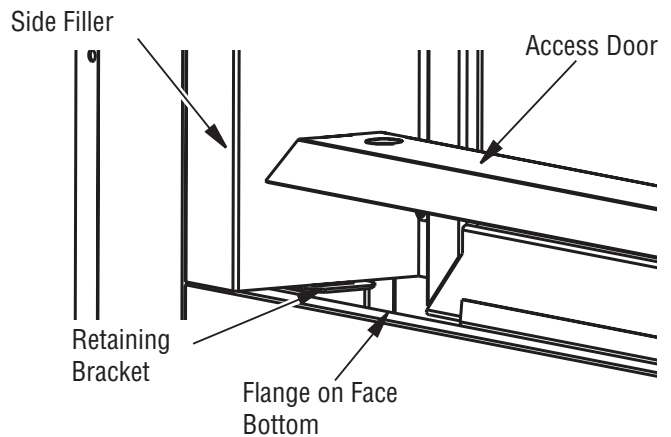

Figure 24 - Access Door for See-Thru Applications
1. Place access door in front of fireplace opening with the slanted side facing forward. The slanted surface will slide underneath the flange of the bottom face. Insert tabs on side of access door into slots on retaining brackets (See **Figure 24**).
2. Remove access door (see *Figure 24, Page 15*).